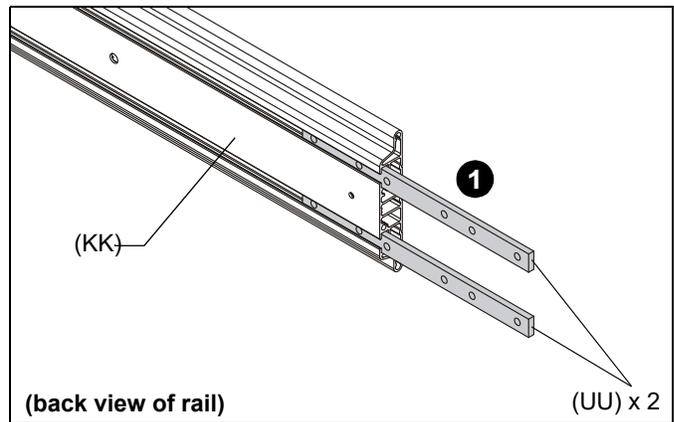

Figure 7
1. Insert two tie bars (UU) into the slots on one section of mounting rail (KK). (See Figure 7)